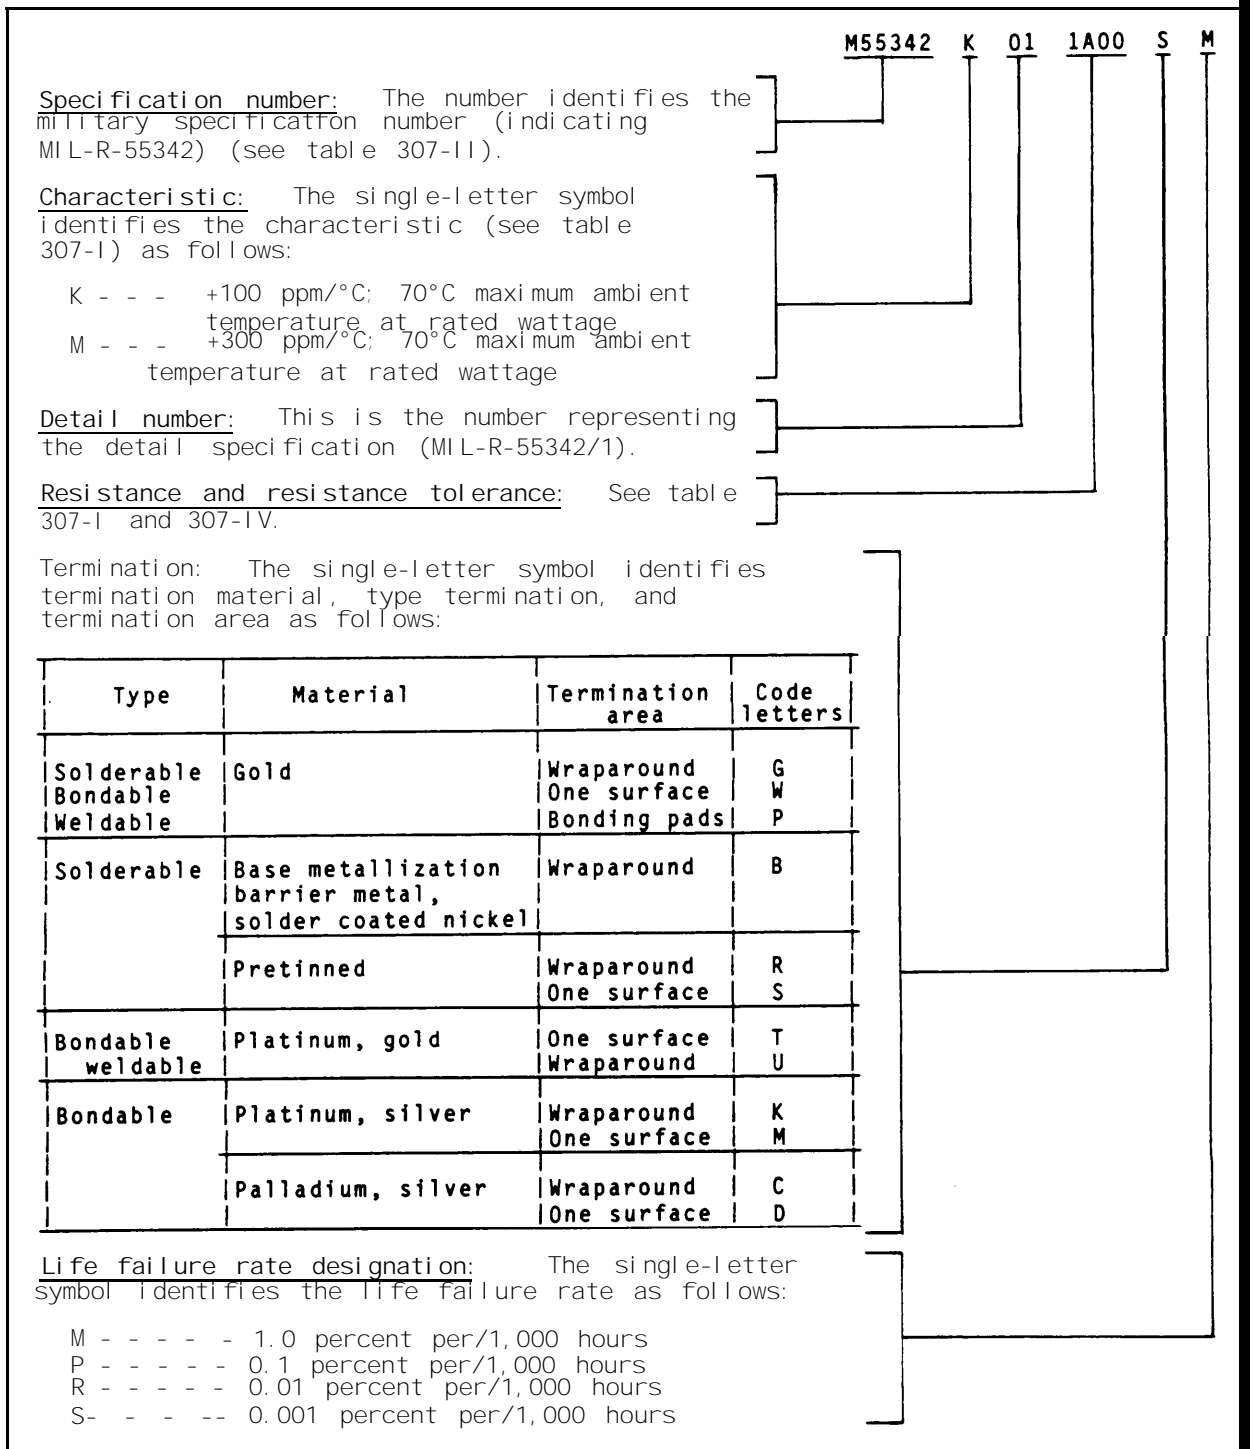

FIGURE 307-2. PIN example.
3. ITEM IDENTIFICATION (see figures 307-2 and 307-3).
3.1 PIN. The PIN is used for identifying and describing the resistor as shown on figure 307-2.